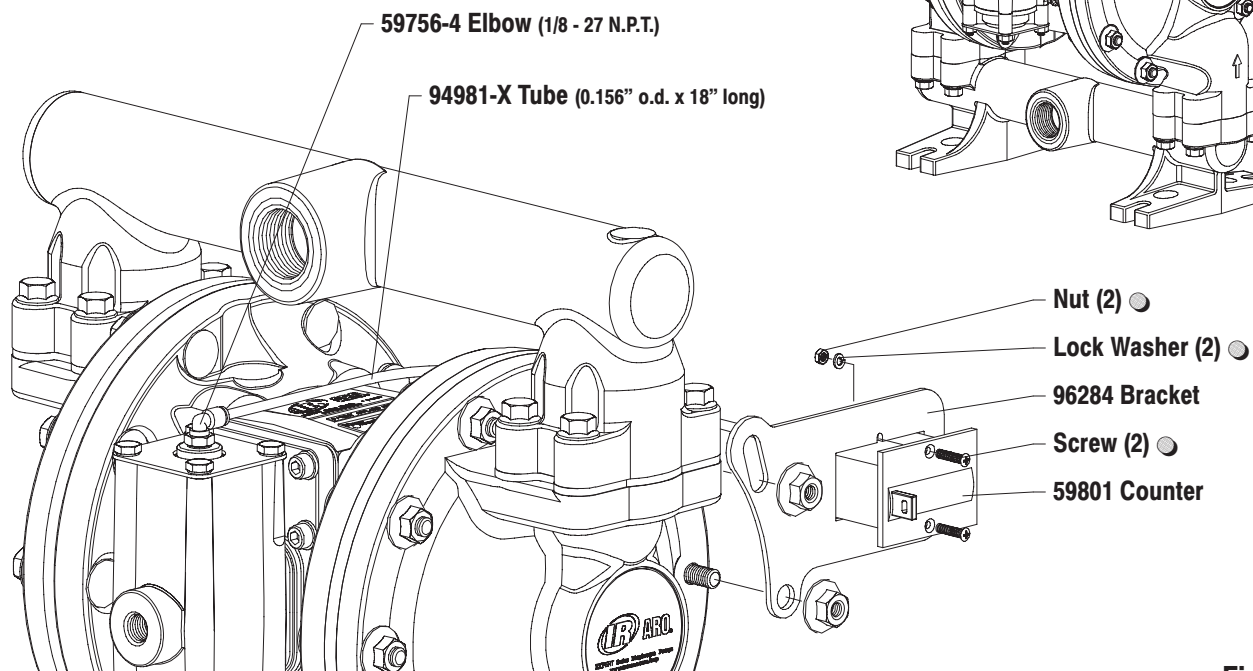

Figure 1
3. Remove two flange nuts from the fluid cap. Use the flange nuts to attach the (96284) bracket to the fluid cap (see figure 1).
5. Remove one screw from the top manifold. Use the screw to attach the (96262) bracket to the manifold (see figure 1).